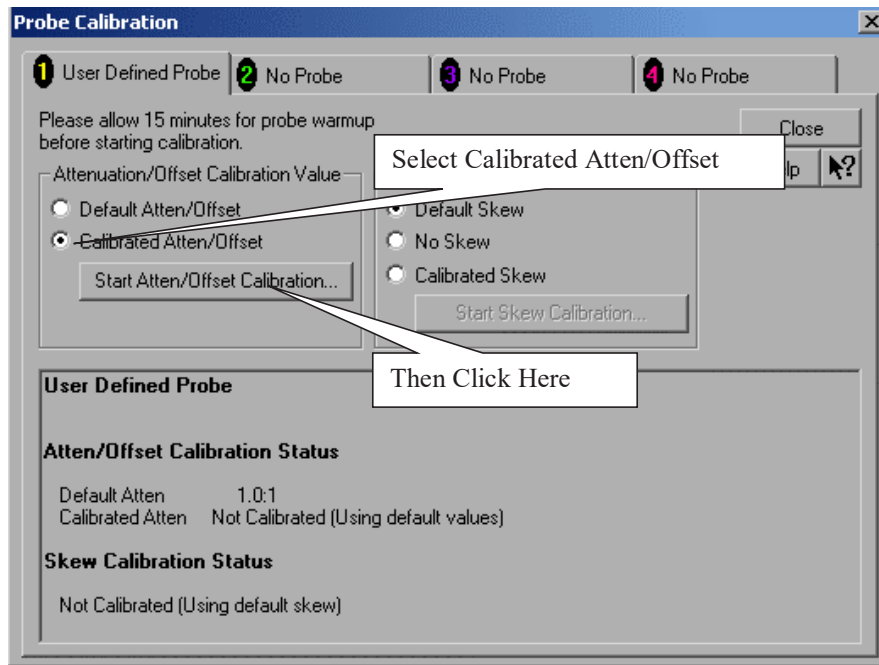

Figure 11 Probe Calibration Window.
- 5 Referring to Figure 11 below, perform the following steps: